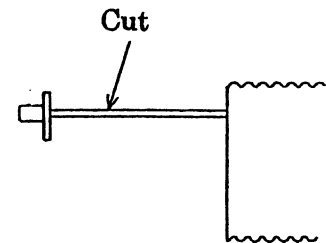

Figure 15
- (g) Cut off the rope tail with a nipper, and pull out all the wire rope from the mechanism. (See Fig.15)